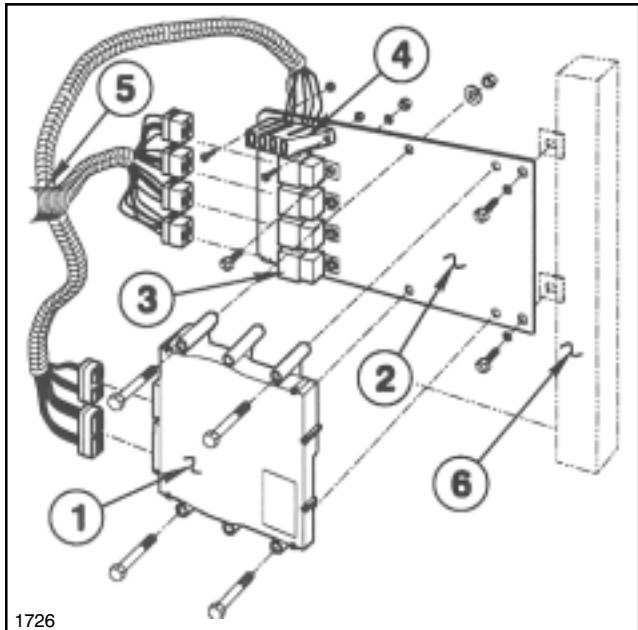

FIG. 2
- Mount ECU to Plate using four (4) 1/4 NC x 2-1/2" hex hd cap screws, lock washers and hex nuts. See FIG. 2.
- Mount four (4) Relays to Plate using 1/4 NC x 5/8" hex hd cap screws, lock washers and hex nuts.
- Mount Fuse Block to Plate using two (2) # 10 NCx5/8" rec. rd. hd. mach. screws and hex nuts.
- Mount ECU plate to Vehicle post on right side under Dash, using two (2) 5/16 NC x 3/4" cap screws and lock washers. See FIG. 2.